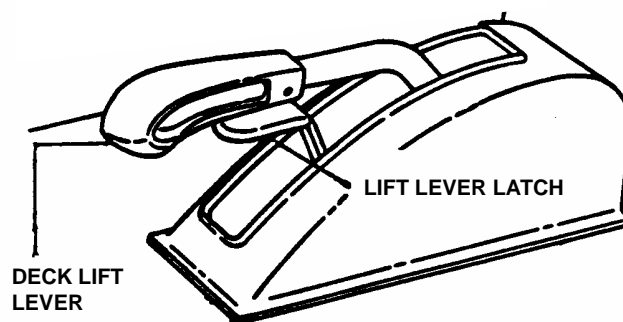

FIGURE 2.18
1. Adjust cutting height as desired to any one of six positions using deck lift lever. When in desired height of cut, release latch, then try to move deck lift lever to ensure lift lever latch is fully engaged. See Figure 2.18.